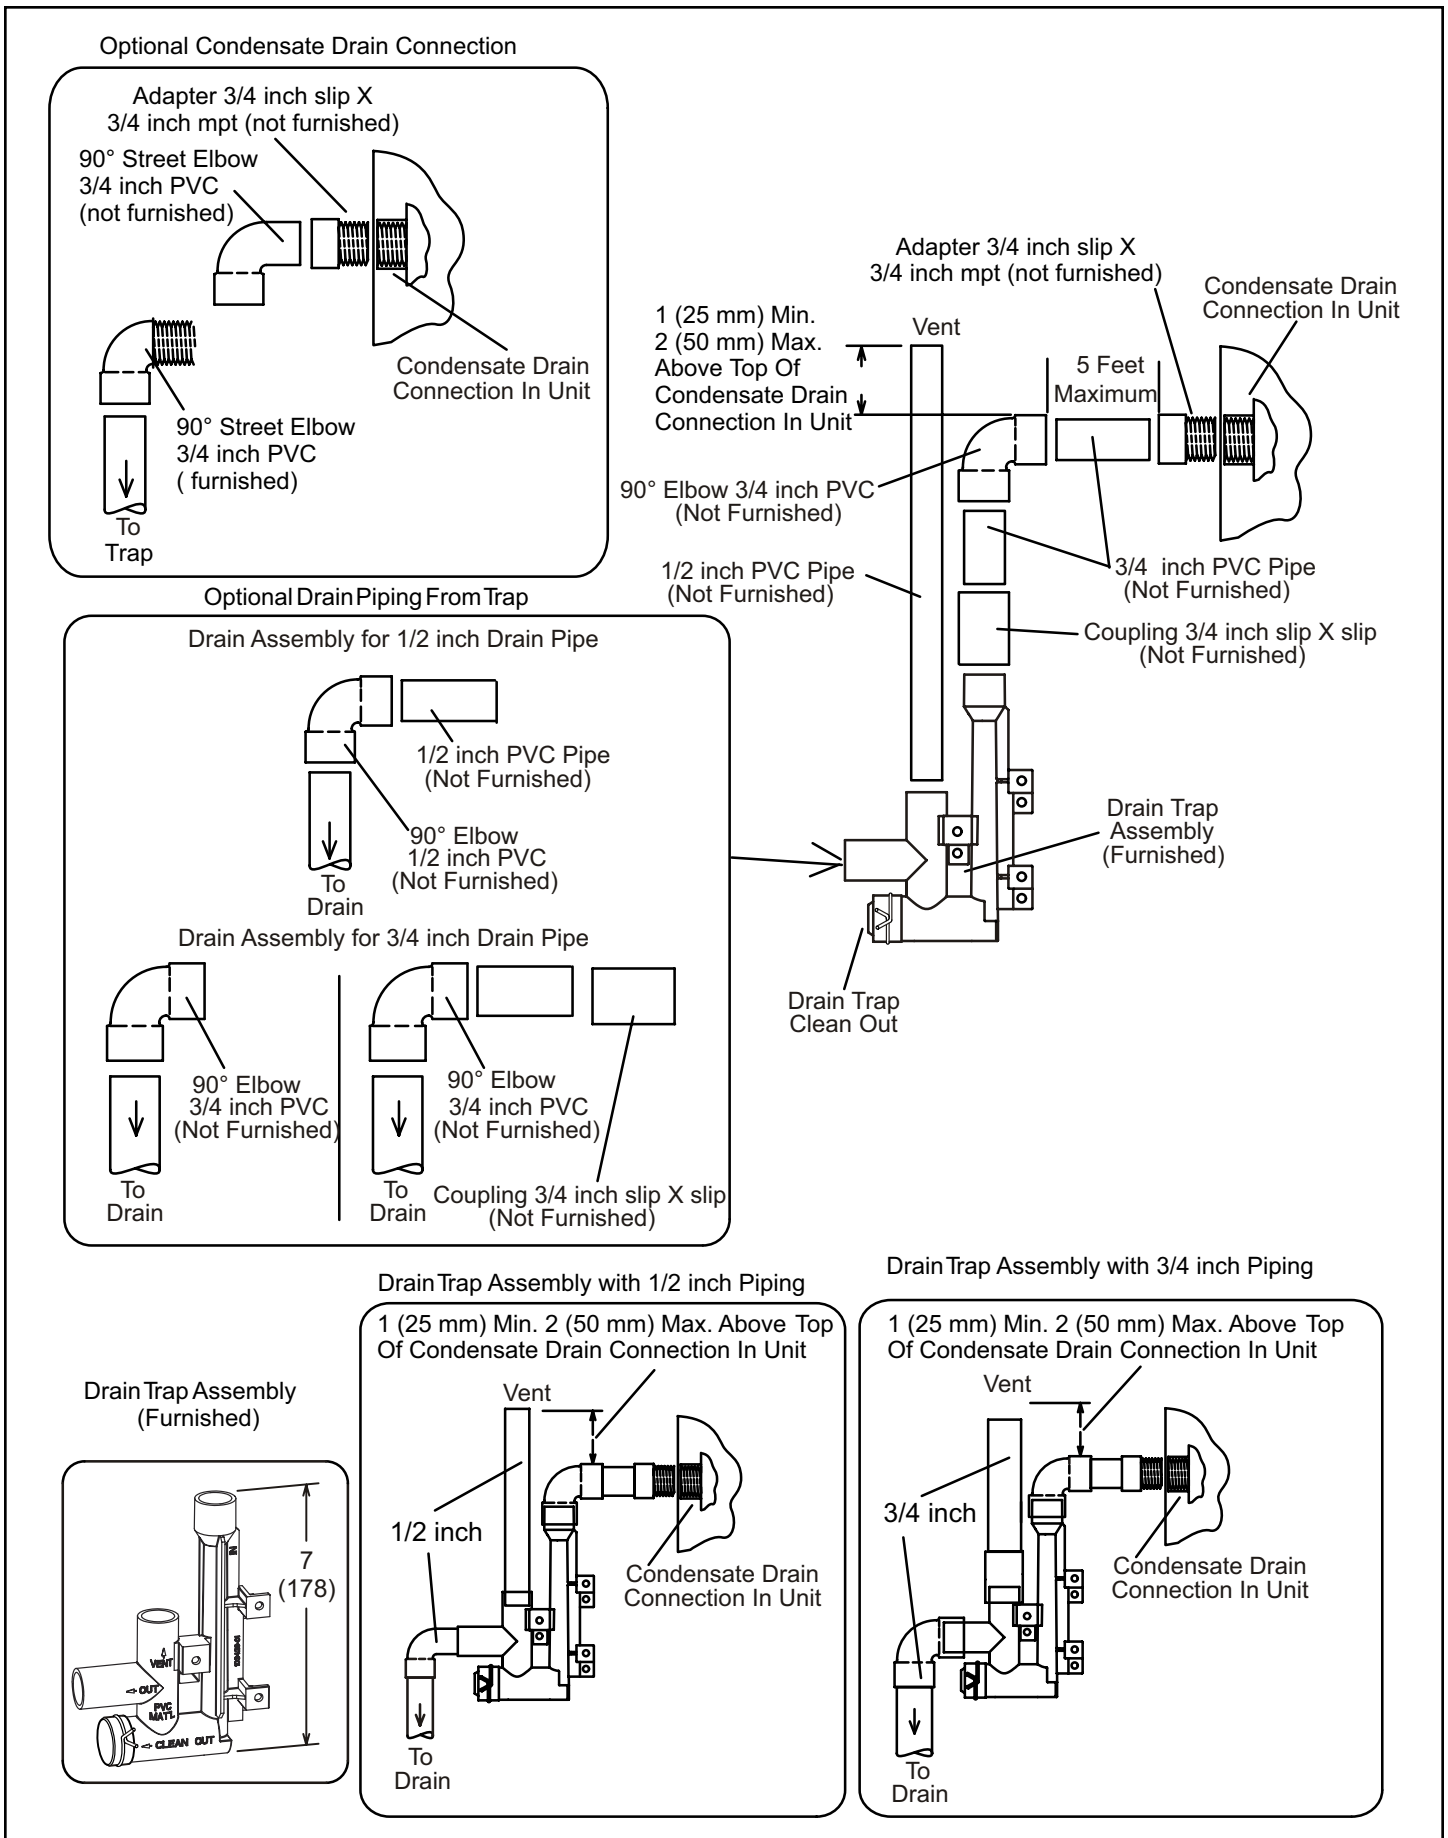

Figure 46. Trap Drain Assembly Using 1/2" PVC or 3/4" PVC
3. Install the cap over the clean out opening at the base of the trap. Secure with clamp. See Figure 46.
4. Install drain trap using appropriate PVC fittings, glue all joints. Glue the provided drain trap as shown in Figure 46. Route the condensate line to an open drain. Condensate line must maintain a 1/4" downward slope from the furnace to the drain.